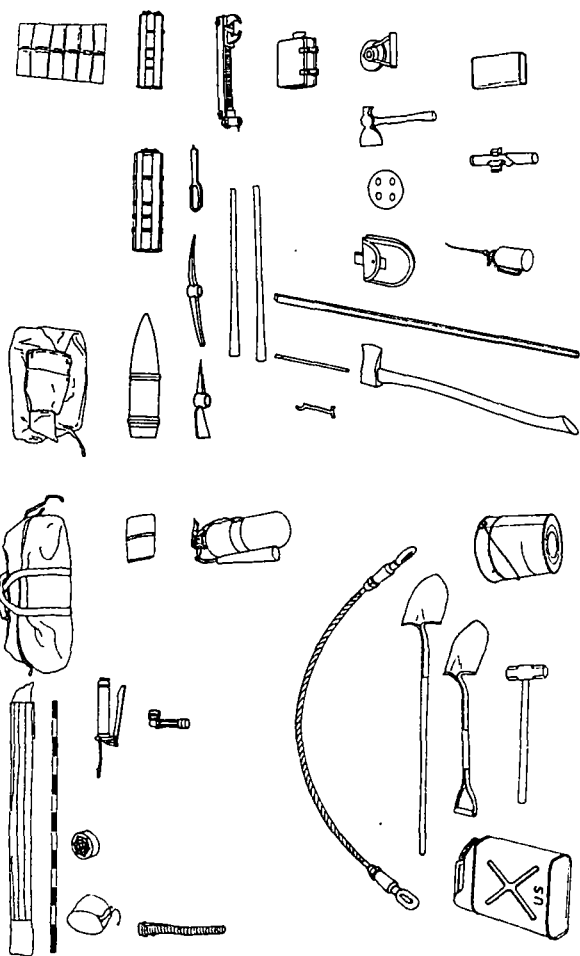

Figure 3. Section equipment.
- b.* Section equipment is shown in figure 3.